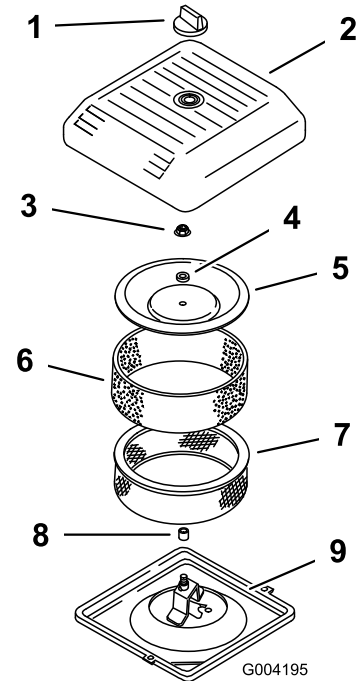

Figure 30
4. Unscrew the knob and remove the air cleaner cover (Figure 30).
5. Carefully slide the foam pre-filter off of the paper element (Figure 30).
6. Unscrew the cover nut and remove the cover, spacer and paper filter (Figure 30).
- Place the air cleaner assembly onto the air cleaner base (Figure 30).
- Install the cover, spacer and secure it with the cover nut (Figure 30). Torque the nut to 95 inch-lb (11 N·m).
- Install the air cleaner cover and secure with the knob (Figure 30).